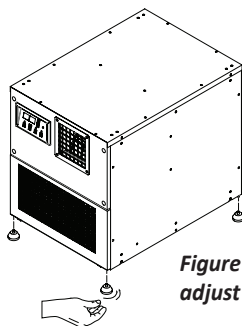

Figure 19 - universal adjust attachment
3. Install on the unit as shown in Figure 19.